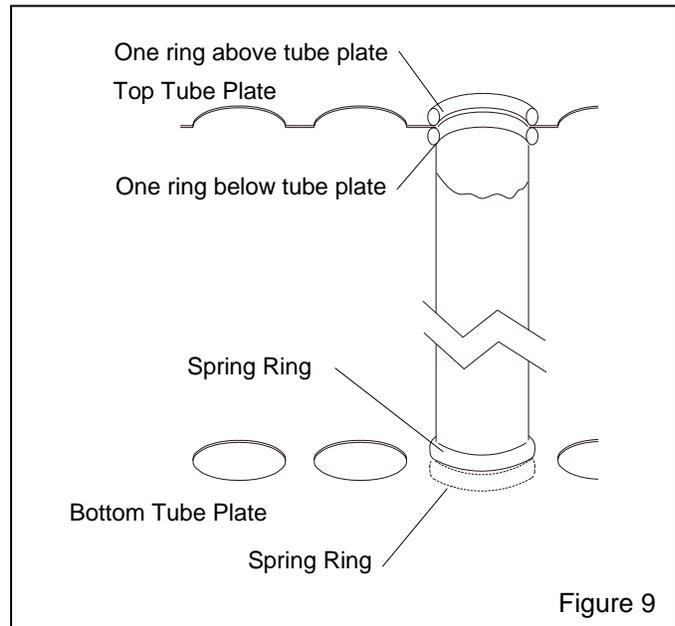

Figure 9
7.6 Dry Filter Tube Replacement, Figure 9
and top tube plates. Working from the back to the front, install one filter at a time. To install new filters, form the end of the spring ringed tubular filter into a shallow "c" shape, push the filter far enough into the hole of the top plate to allow one spring ring to snap into place above the tube plate and the other to snap into place below it. See the illustration in Figure 9.